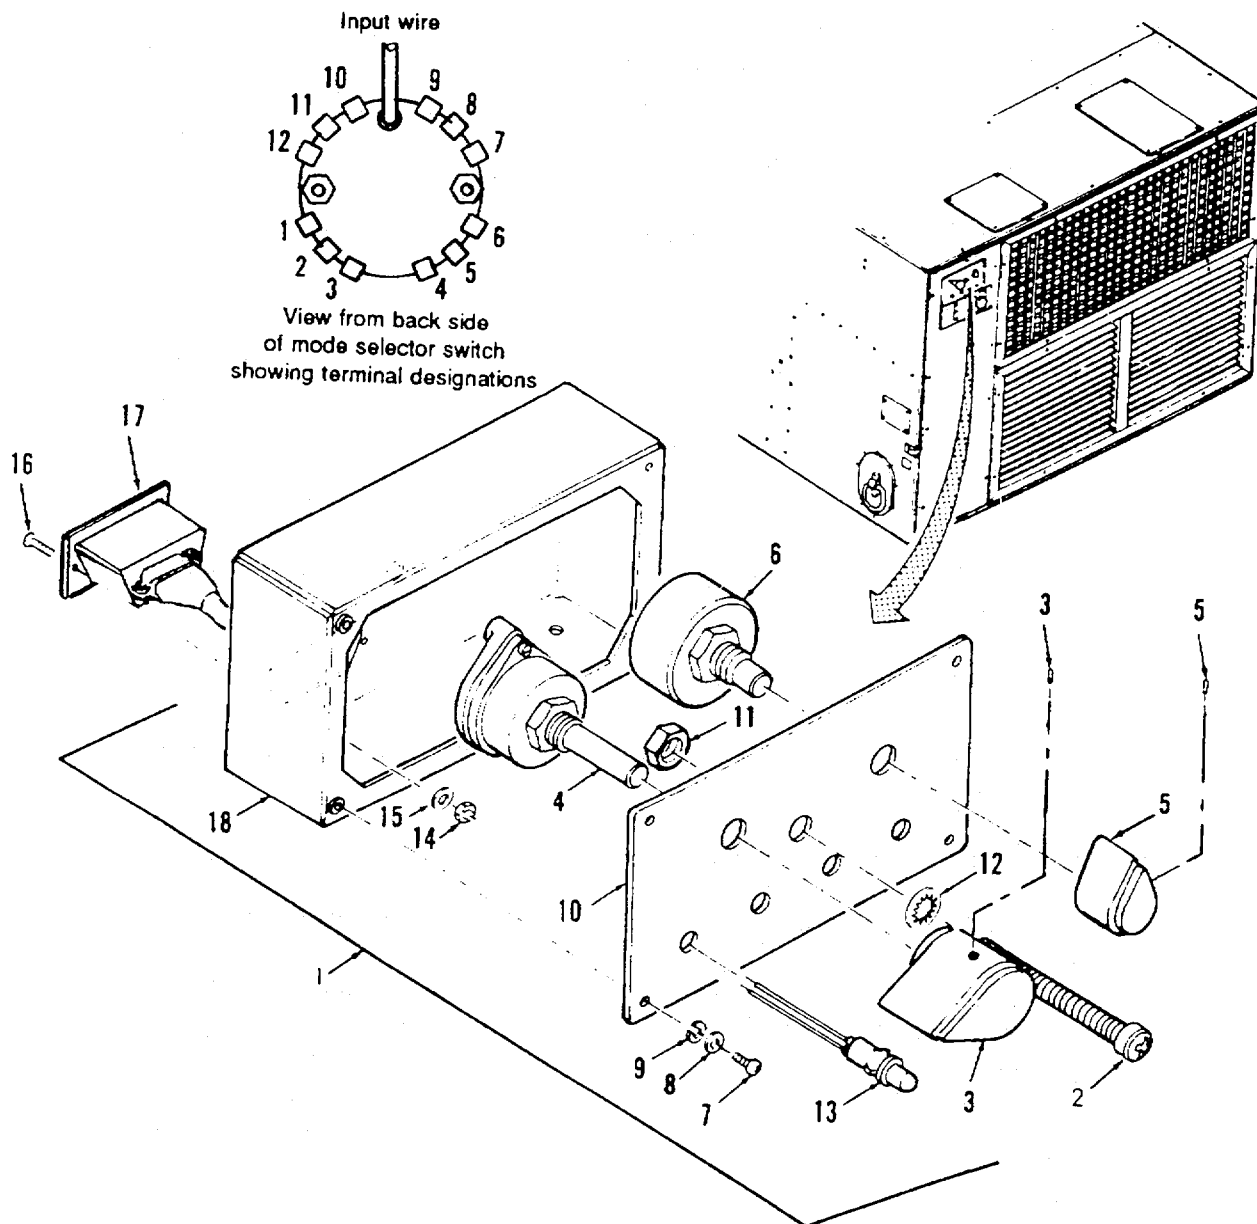

Figure 3-30. Control Panel Assembly
- a. **Removal.** (Refer to Figure 3-30).